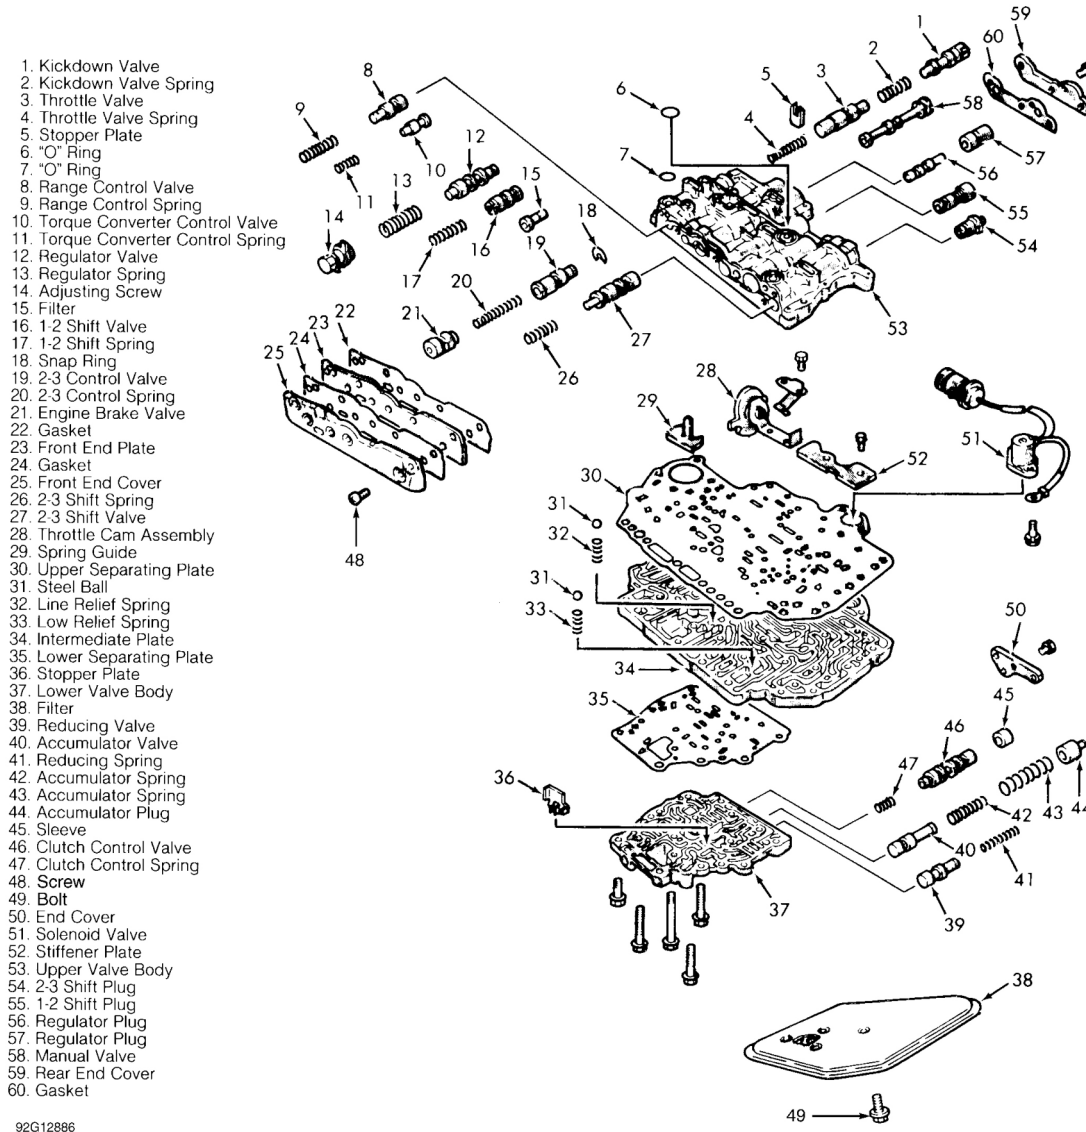

Fig. 20: Valve Body Assembly (F3A20 Series)(1991 Shown; 1992 Similar)
4. Remove manual valve from upper valve body. Remove front, rear and end covers from valve body, and remove all valves, plugs, springs and filters. See **Fig. 20**.
shown in **Fig. 20** .